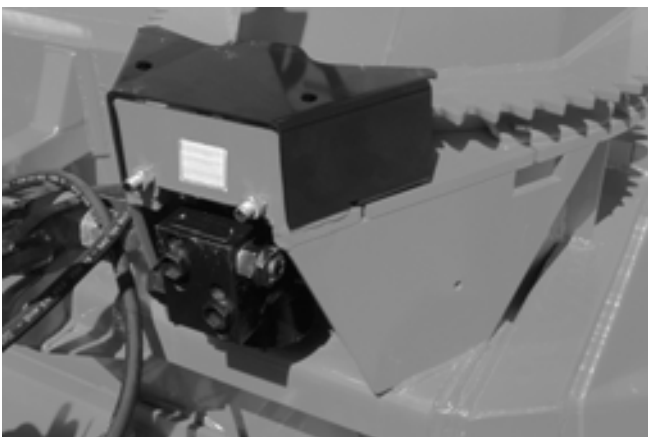

Figure 31
- 5) Install guard. It is important that the cushion valve furnished with your chute rotation kit be installed. Cushion valve has been pre set in plant at 1600 psi. (Fig. 31).